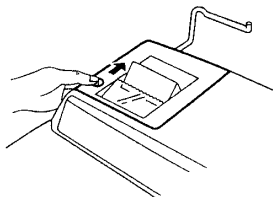

Fig.1
3. Remove the printer cover by sliding it towards the back of the calculator. (Fig.1)